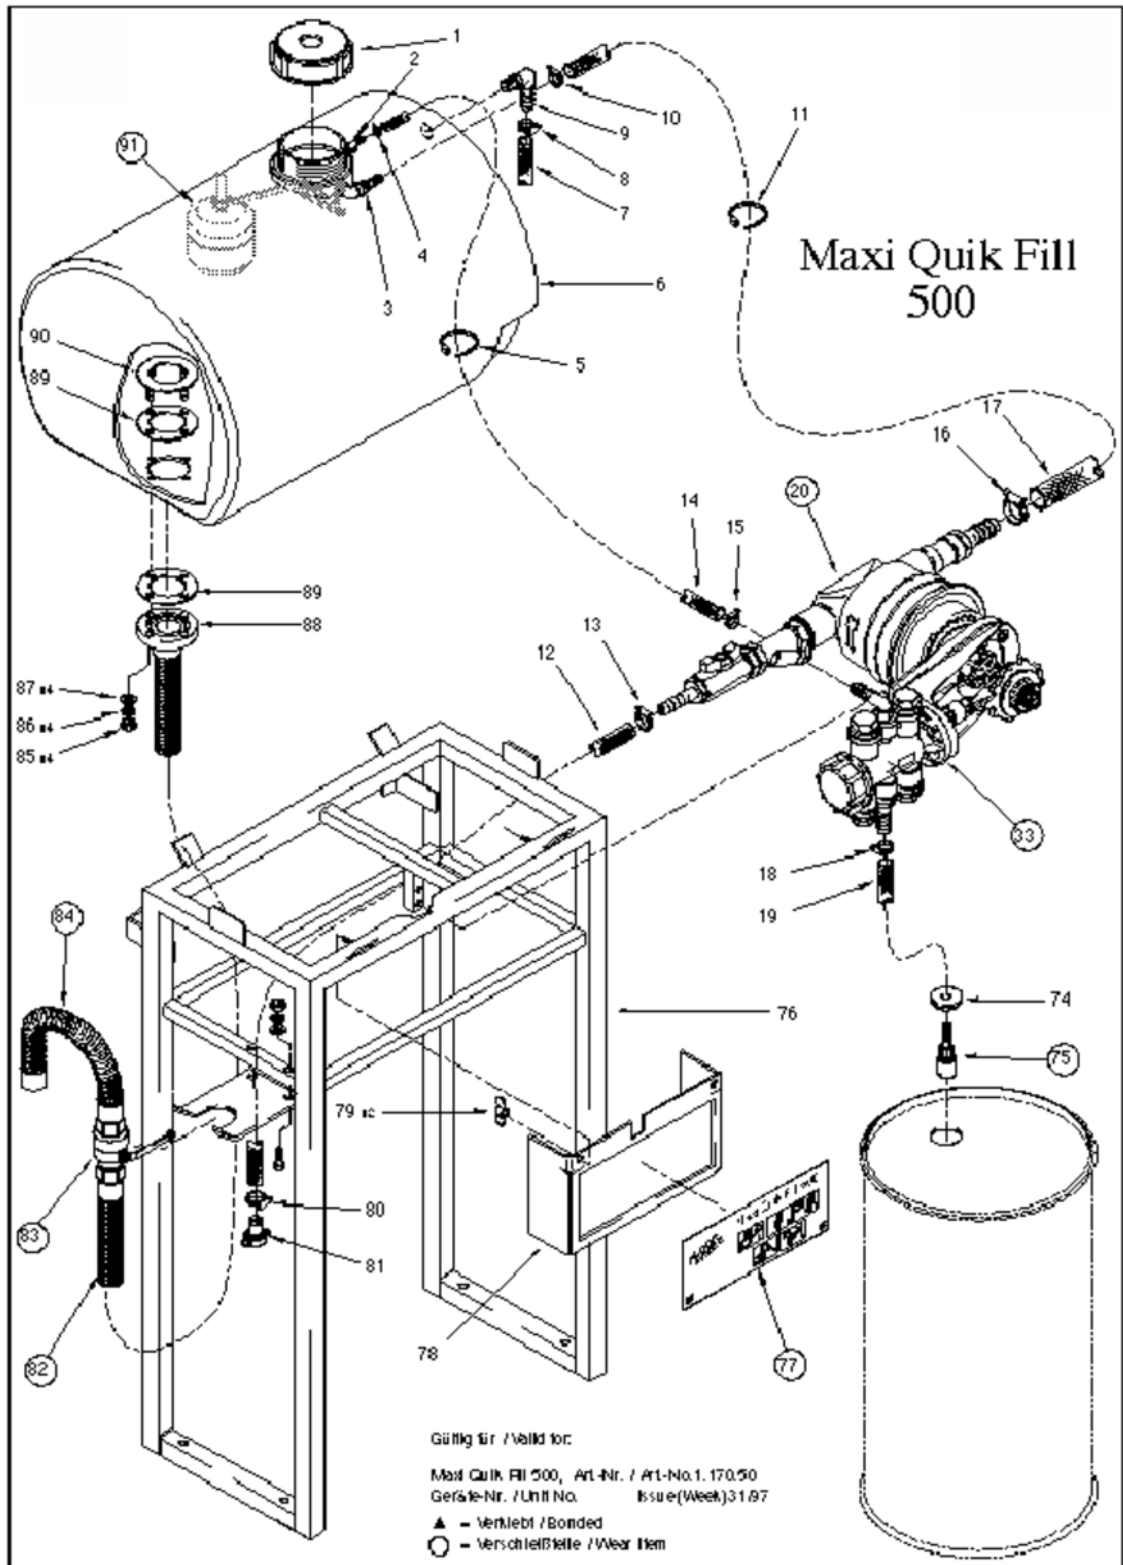
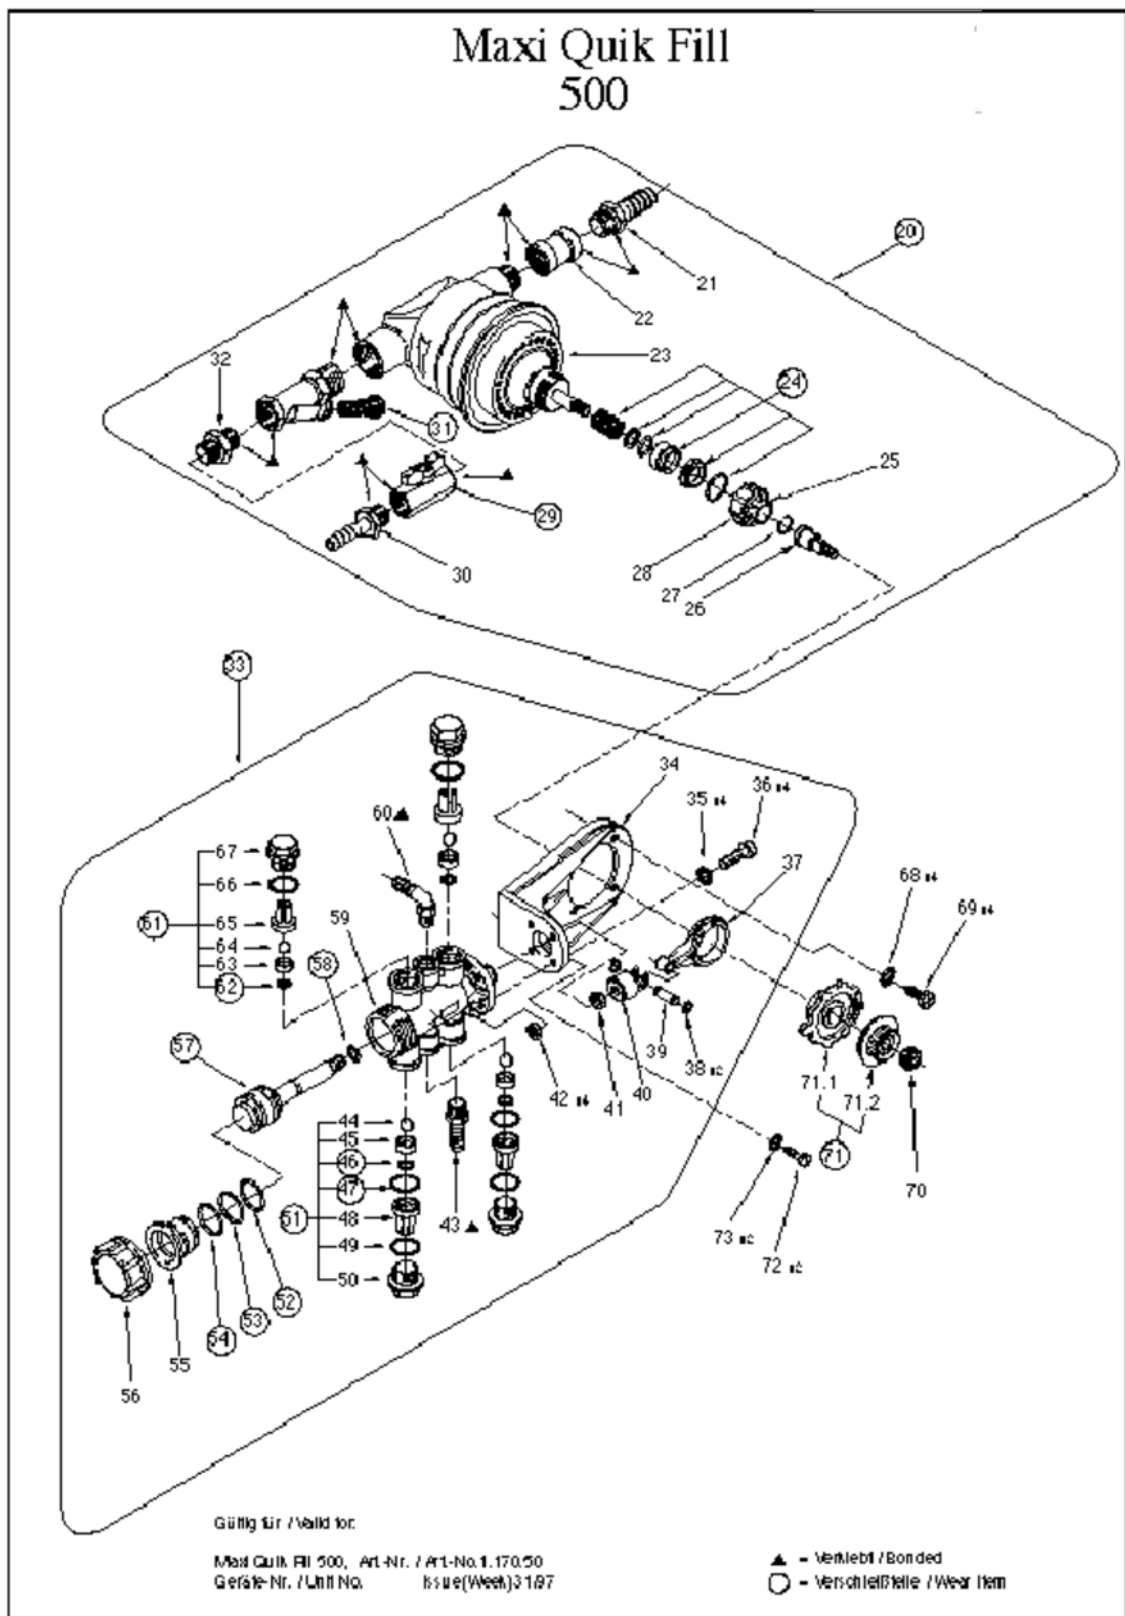

Fig. 7: Exploded view I
Fig. 8: Exploded view II
1. ▶ Loosen both wing nuts (☞ *Chapter 10 'Drawings / Spare Parts / Accessories' on page 37*, Fig. 7, pos. 79) and remove cover plate (Fig. 7, pos. 78).
2. ▶ Loosen hose clamp (Fig. 7, pos. 18) and disconnect product feed line (Fig. 7, pos. 19) from nipple (Fig. 8, pos. 43).
3. ▶ Loosen hose clamp (Fig. 7, pos. 15) and disconnect product feed line (Fig. 7, pos. 14) from nipple (Fig. 8, pos. 60).
4. ▶ Remove knurled knob (Fig. 8, pos. 70) and remove excenter (Fig. 8, Pos. 71) completely.
5. ▶ Remove screws (Fig. 8, pos. 69) from water motor and remove pump w. pump holder.
1. ▶ Close the fresh water faucet and close ball cock (☞ *Chapter 10 'Drawings / Spare Parts / Accessories' on page 37*, Fig. 8, pos. 29) of the water motor (Fig. 8, pos. 23).
2. ▶ Loosen wing nuts (☞ *Chapter 10 'Drawings / Spare Parts / Accessories' on page 37*, Fig. 7, pos. 79) and remove cover plate (Fig. 7, pos. 78).
3. ▶ Unscrew knurled knob (☞ *Chapter 10 'Drawings / Spare Parts / Accessories' on page 37*, Fig. 8, pos. 70) from excenter stud (Fig. 8, pos. 26) and remove excenter wheel (Fig. 8, pos. 71.1) together with rod (Fig. 8, pos. 37).
5. ▶ Remove sirclip (Fig. 8, pos. 27) and coupling nut (Fig. 8, pos. 28) together with ball bearing (Fig. 8, pos. 25) from water motor drive shaft.
6. ▶ Remove slide ring packing (Fig. 8, pos. 24) from drive shaft by carefully moving it back and forth.
1. ➤ Close the fresh water faucet and close ball cock (☞ *Chapter 10 'Drawings / Spare Parts / Accessories' on page 37, Fig. 8, pos. 29*) of the water motor (Fig. 8, pos. 23).
2. ➤ Loosen wing nuts (☞ *Chapter 10 'Drawings / Spare Parts / Accessories' on page 37, Fig. 7, pos. 79*) and remove cover plate (Fig. 7, pos. 78).
3. ➤ Unscrew knurled knob (☞ *Chapter 10 'Drawings / Spare Parts / Accessories' on page 37, Fig. 8, pos. 70*) from excenter stud (Fig. 8, pos. 26) and remove excenter wheel (Fig. 8, pos. 71).
4. ➤ Remove screws (Fig. 8, pos. 69) and washers (Fig. 8, pos. 68) from pump holder (Fig. 8, pos. 34).
6. ➤ Loosen hose clamps (☞ *Chapter 10 'Drawings / Spare Parts / Accessories' on page 37, Fig. 7, pos. 13 and pos. 16*) and disconnect hoses (Fig. 7, pos. 12 and pos. 17) from water motor.
3. ➤ Unscrew sieve holder from dirt filter (☞ *Chapter 10 'Drawings / Spare Parts / Accessories' on page 37, Fig. 8, pos. 31*) and remove sieve.
2. ➤ Remove tank filler cap (☞ *Chapter 10 'Drawings / Spare Parts / Accessories' on page 37, Fig. 7, pos. 1*).
3. ➤ Drain tank sufficiently until easy access to the valve (Fig. 7, pos. 91) is ensured.
4. ➤ Loosen hose clamp (Fig. 7, pos. 10) and disconnect hose (Fig. 7, pos. 17) from angled piece (Fig. 7, pos. 9).
2. ➤ Remove tank filler cap (☞ *Chapter 10 'Drawings / Spare Parts / Accessories' on page 37, Fig. 7, pos. 1*) and Drain tank (Fig. 7, pos. 6) completely.
3. ➤ Unscrew the four nuts (Fig. 7, pos. 85) with lock washers (Fig. 7, pos. 86) and washers (Fig. 7, pos. 87) from the threaded bolts of the counter ring (Fig. 7, pos. 90).
4. ➤ Remove dispensing hose flange (Fig. 7, pos. 88) including seal ring (Fig. 7, pos. 89).
5. ➤ Install new dispensing hose (Fig. 7, pos. 83) analogously in reverse order.